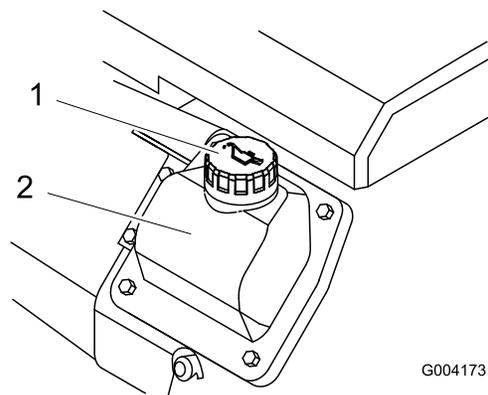

**Figure 14**
4. Clean around the oil dipstick (Figure 14).
5. Pull out the dipstick and wipe the metal end clean (Figure 14).
6. Slide the dipstick fully into the dipstick tube (Figure 14).